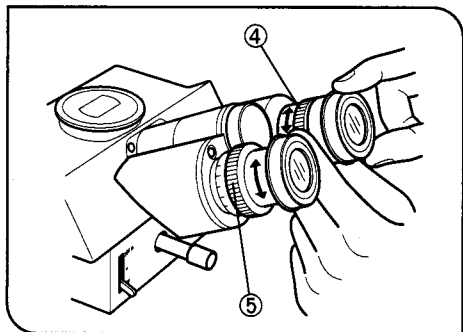

Fig. 2
1. Turn the pointer brightness control ① of the discussion attachment clockwise to turn on the pointer (↑).
- ⊙ Set the pointer color switching lever ② to other position than the middle position. If the pointer cannot be seen in the field of view, move the pointer at the center of field using the pointer control lever ③.
2. Turn the helicoid ④ of the right eyepiece to focus on the pointer.
3. Turn the helicoid ⑤ of the left eyepiece sleeve to focus on the pointer. (Fig. 2)